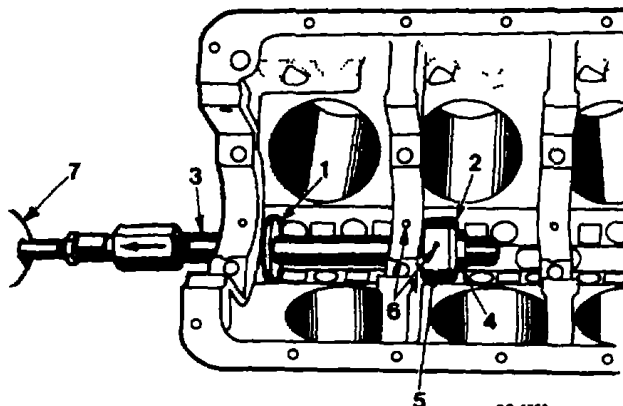

Figure 124. Installing Second Camshaft Bearing
- 5. Position new bearing on second adapter and "C" washer behind adapter (Figure 124). Align oil holes and pull in second bearing.